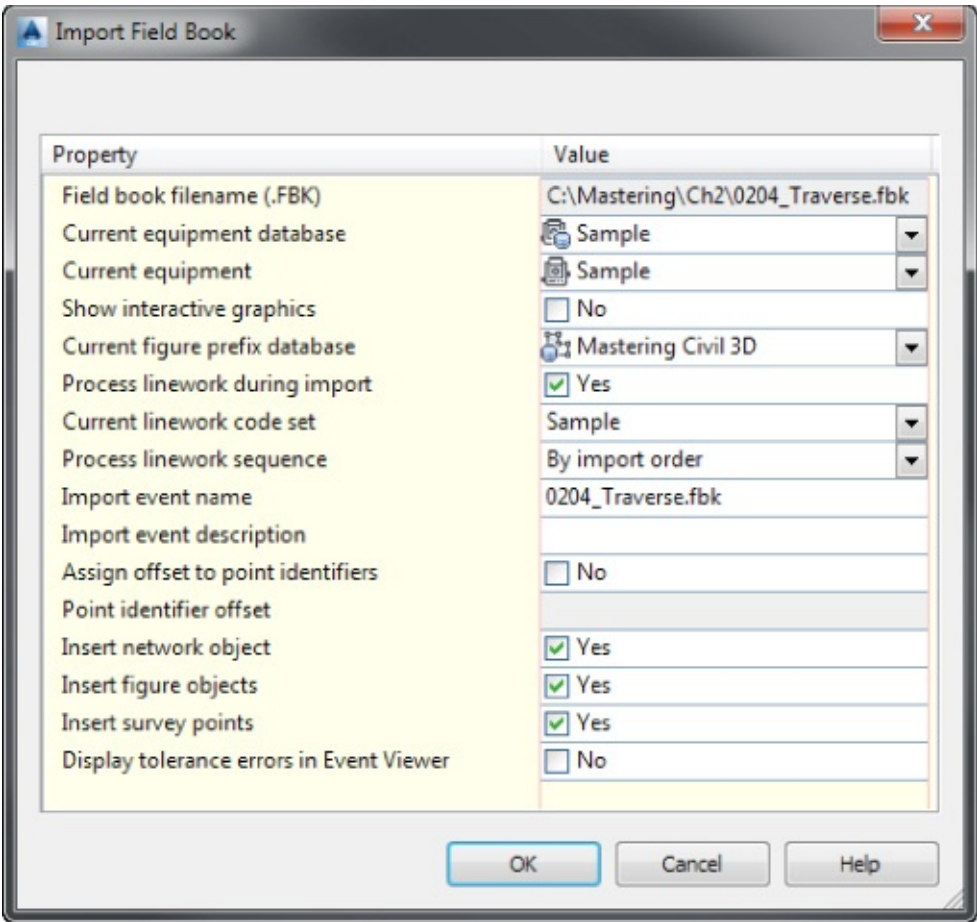

Figure 2.22 The Import Field Book dialog
- 11. Make sure you have checked the boxes shown in Figure 2.22.